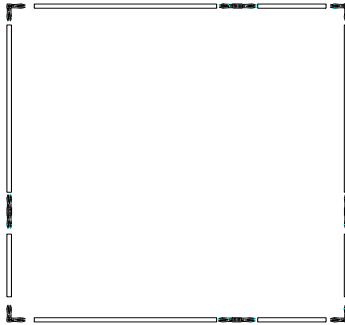

Figure 9: Diagram of 3 ft x 3 ft frame
- 1 Build the 3 ft x 3 ft frame structure as shown in Figure 9 using four 2 ft aluminum frame tubing pieces, four 1 ft aluminum frame tubing pieces, four right-angle tubing connectors, and four straight tubing connectors. Remember to construct the frame so that all Velcro surfaces face in (toward the center of the structure).